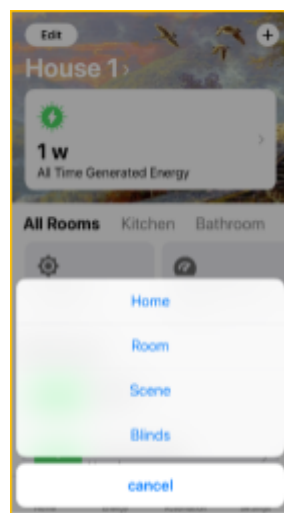

Figure 32
**10.8.2.** Select **Home** from the menu options (Fig. 32).